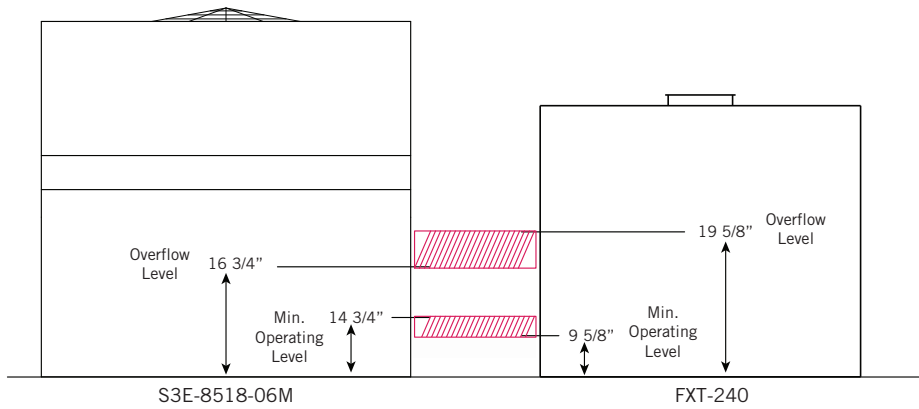

Figure 3. Sample Problem; Side View
- To set the operating levels, raise the float ball on the make-up valve arrangement in the FXT-240 by 8" to obtain a 17 5/8" operating level. This setting will maintain the 14 3/4" minimum operating level required for the model S3E-8518-06M. This is illustrated in **Figures 3** and **4**. Adjust the float balls to ensure the make-up valves operate evenly. Note, adjusting the valves may cause one valve to operate excessively while the other remains closed.